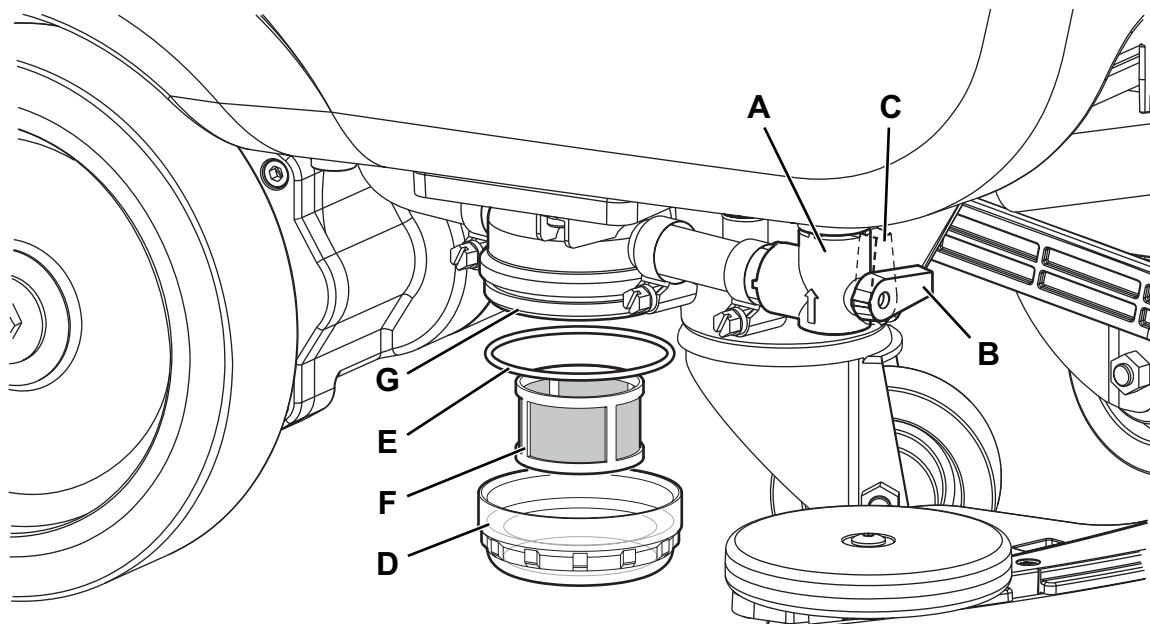

Figure 13
2. Ensure that the machine is off and the user key (52) has been removed.
3. Close the washing water valve (A, Fig. 13). The valve is closed when it is in position (B) and it is open when it is in position (C).
4. Remove the transparent cover (D) and the gasket (E), then remove the filter strainer (F). Wash and rinse them, then refit them carefully onto the filter support (G).
5. Open the valve (A).